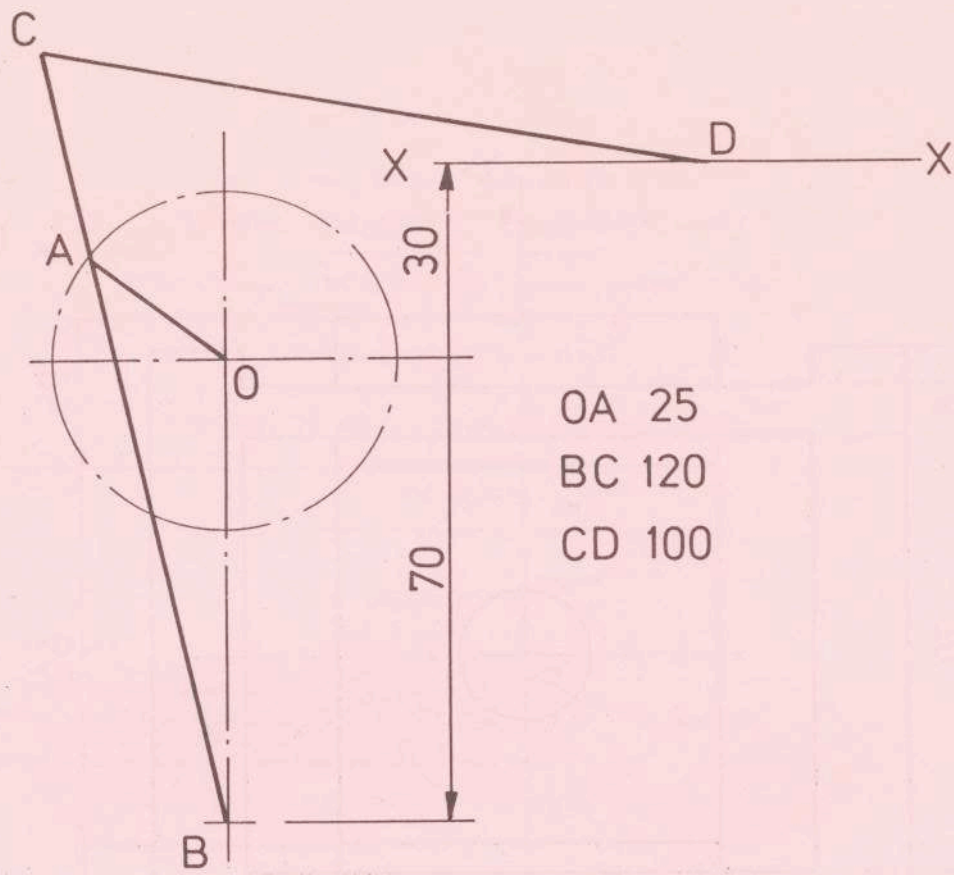

Fig. 2. Fíor 2.
2. In the mechanism shown in Fig. 2 the crank OA rotates clockwise at uniform speed about O. The rod BC oscillates about the fixed point B. Crank end A is fixed in a block which slides along BC and the end D of the connecting rod CD slides along the line X-X.